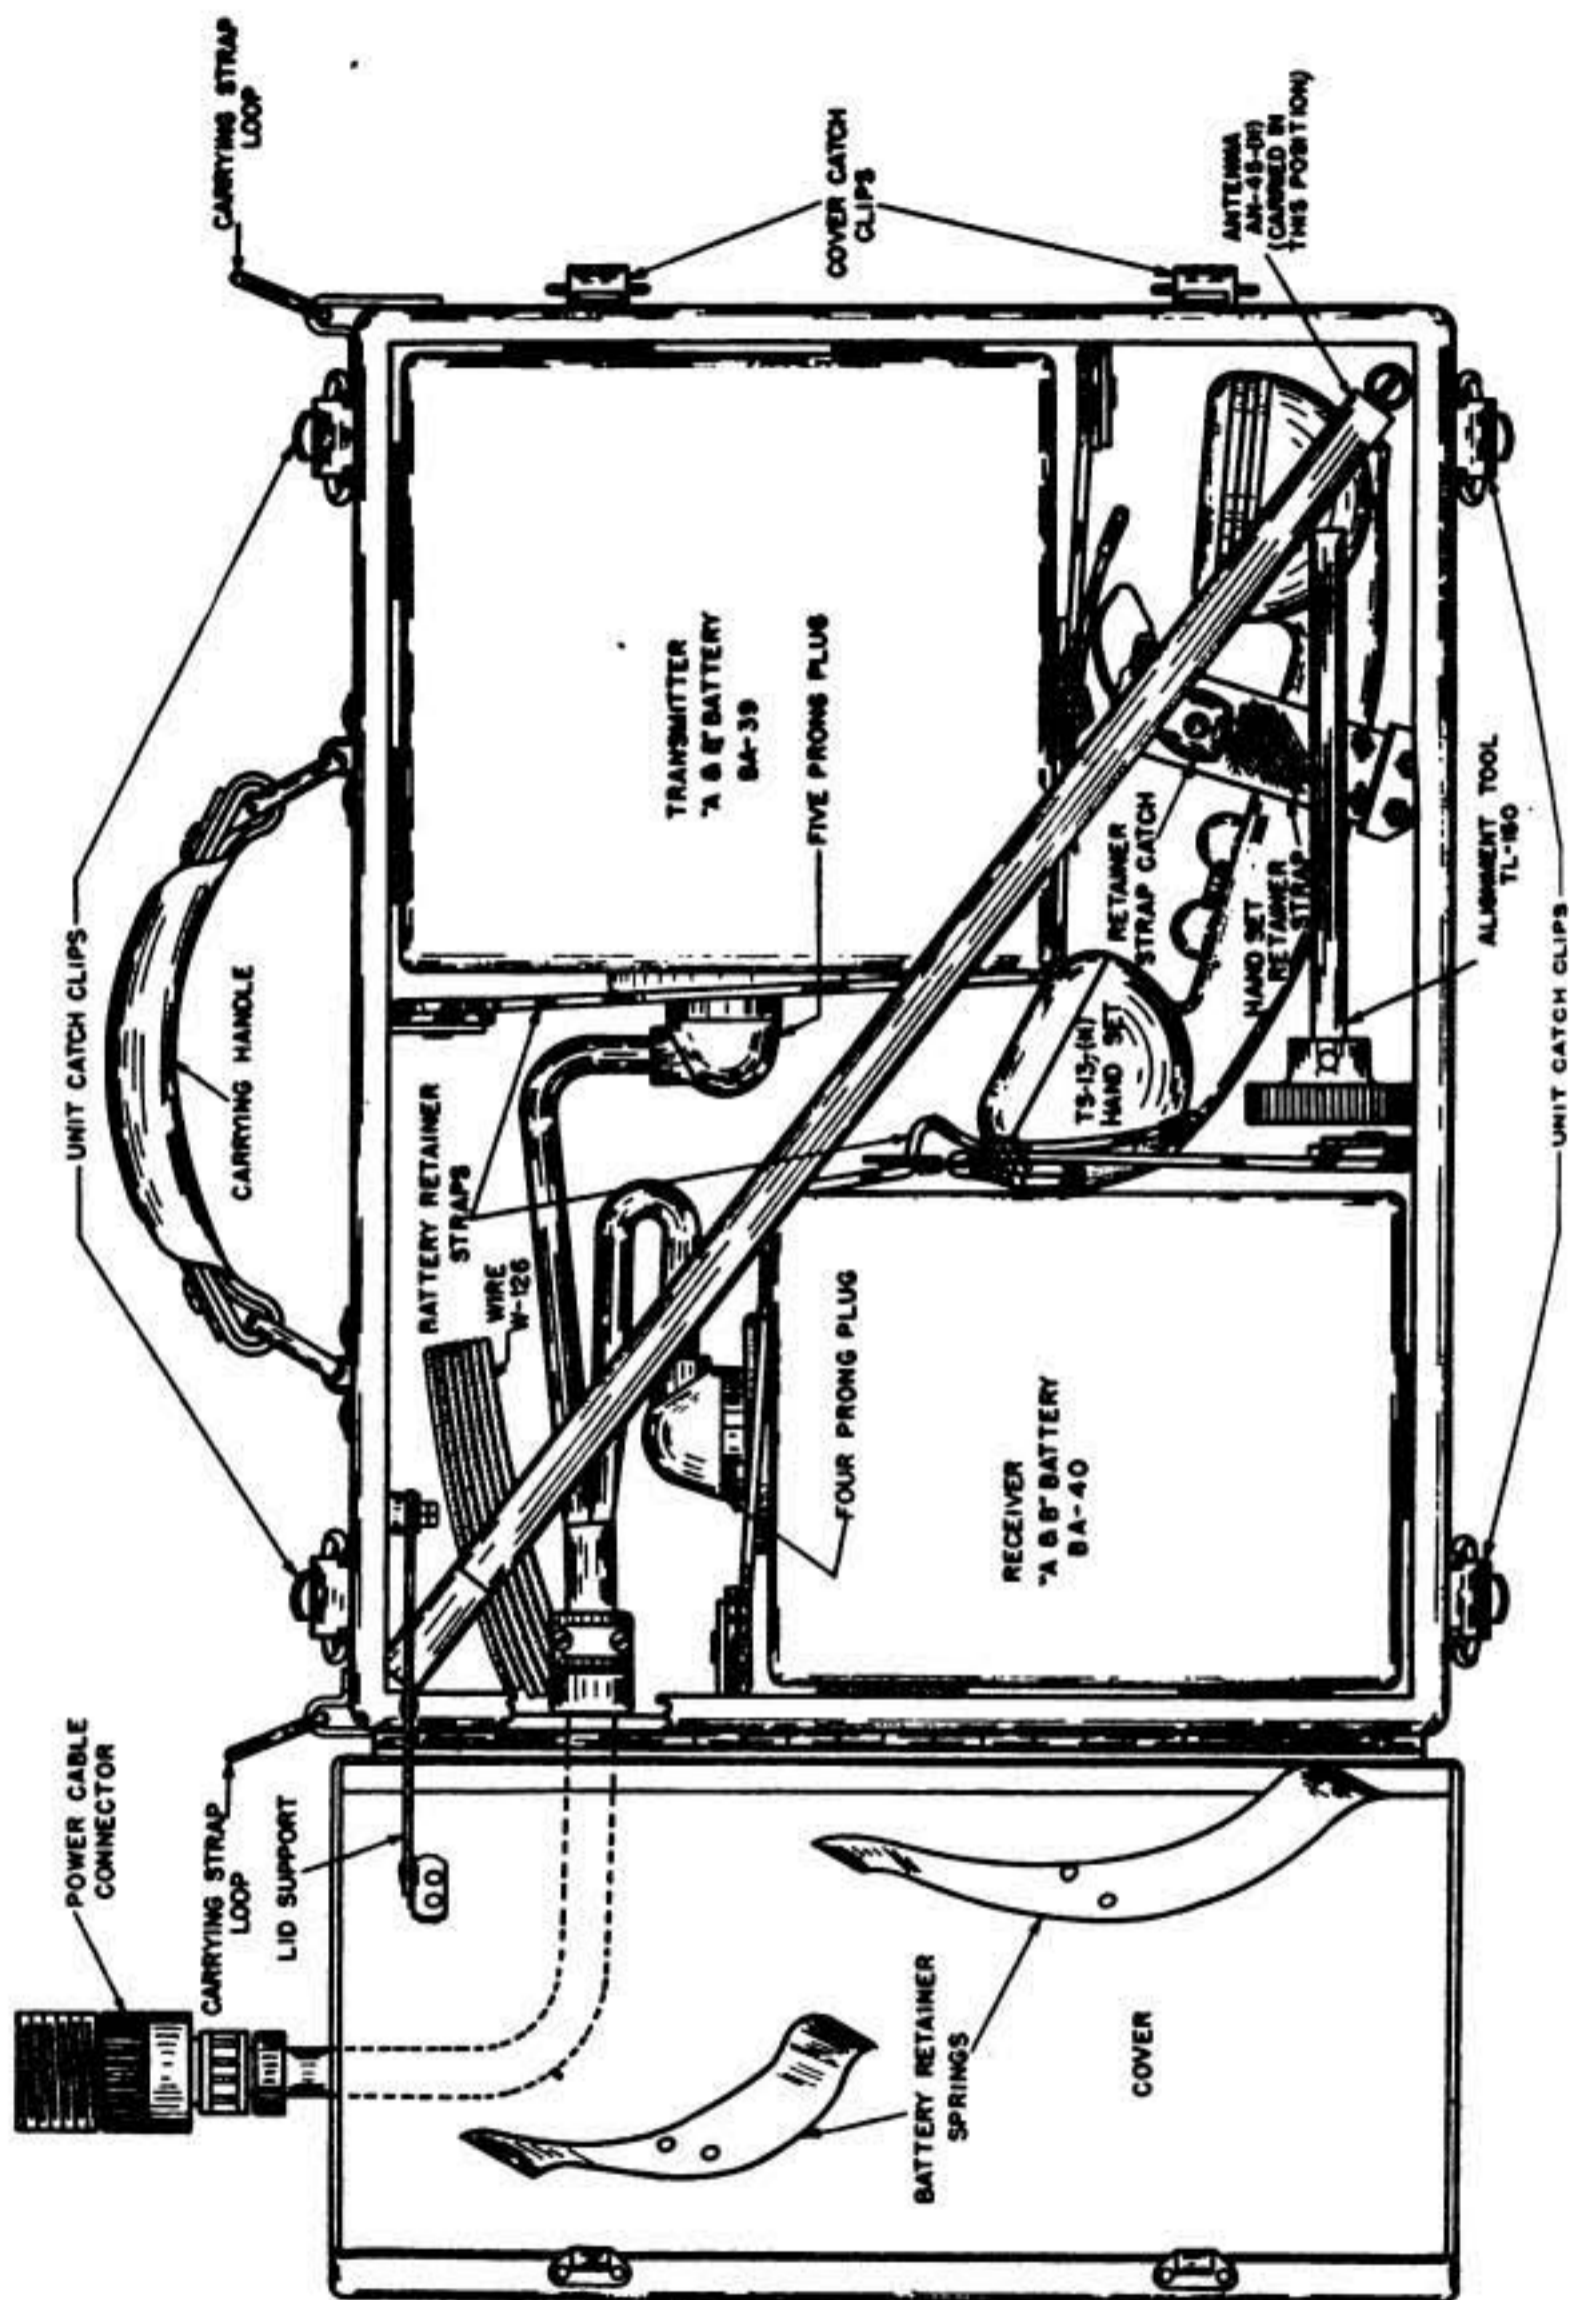

Figure 3. Case CS-79-(*), Layout
(1) Collapsible Antenna AN-45-(*) is provided for use with the radio receiver and transmitter when it is being operated as a portable unit. It may be quickly screwed to the antenna terminal which is located on the rear of the receiver and transmitter case. This antenna is stored in battery Case CS-79-(*). (See Figure 3.)
(2) For vehicular service, a sectional type mast antenna is provided. When not in service the sections are stored in Roll BG-56-(*). Mast Base MP-48-(*) is designed so that it will bend without
Case CS-79-(*), contains Batteries BA-39 and BA-40 that supply power for Radio Receiver and Transmitter BC-620-(*), for portable operation. The batteries are held securely in place with straps and space is provided for carrying the handset, alignment tool, antenna, and coil of insulated wire for use as an antenna. (See Figure 3.) Figure 1 illustrates Case CS-79-(*), and Radio Receiver and Transmitter BC-620-(*), fastened together with the catch clips provided.
Open battery case CS-79-(*) and install Batteries BA-39 and BA-40. (See Figure 3.) Tighten the webbed straps to hold the batteries securely. Place one telephone Handset TS-13-(*), Antenna AN-45-(*), and Alignment Tool TL-150 in position. (See Figure 3.) Also put in the coil of Wire W-29. Close the case and fasten the catch clips. The unit is now ready for service.